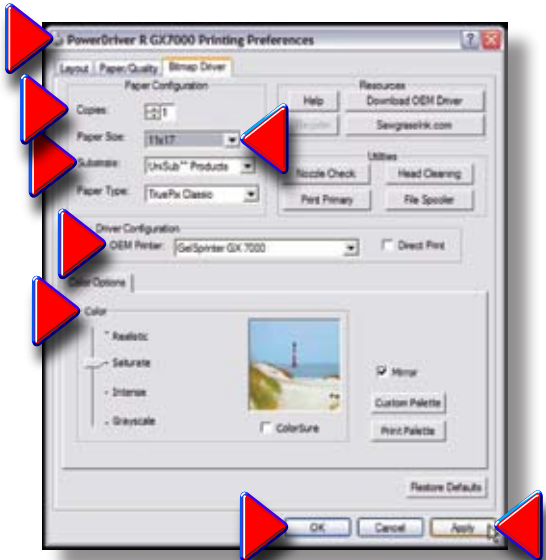

Figure 4
4. Click on the “**Printing Preferences**” Button, bringing you to the “**PowerDriver R GX7000 Printing Preferences**” Screen (**Figure 4**). After setting the **Paper Size**, **PaperType**, **Number of copies**, **Substrate**, **OEM printer**, and **Color** that your image requires, Click “**Apply**”, then “**OK**”, to return to the “**Properties**” Screen. Click “**OK**” to return to the “**Printers**” List.